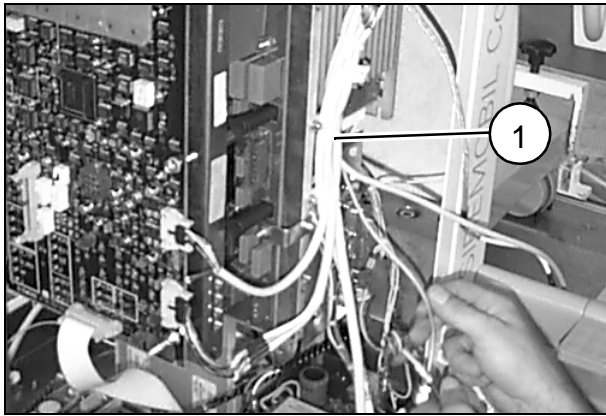

Fig. 16
- Carefully place board D1 on the 6 screws and secure it with washers and nuts (Fig.16).
- Secure the C-arm cable (1/Fig.16) and plug in the connectors.